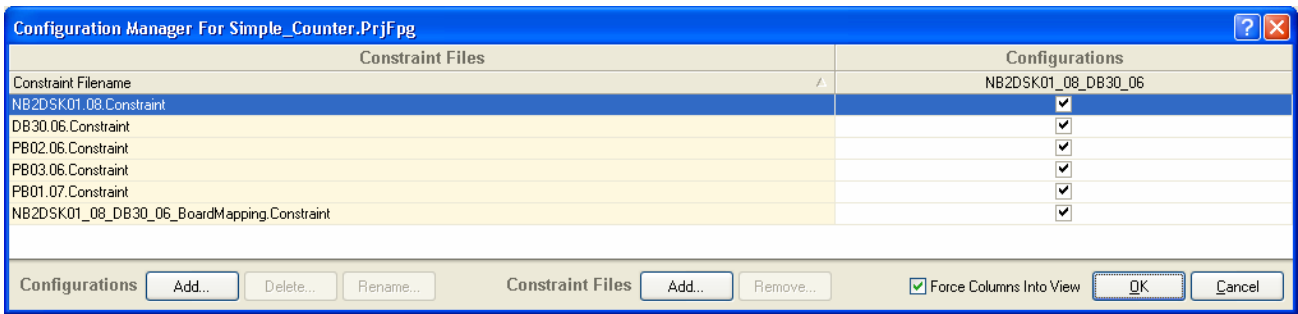

Figure 14. Resulting configuration and constituent constraint files for the Simple_Counter project.
4. The configuration and assigned constraint files will appear listed in the *Configuration Manager* dialog, as shown in Figure 14.